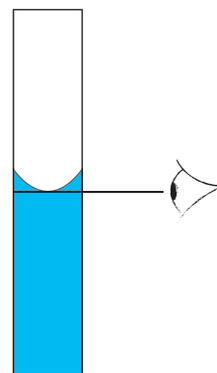

Figure 3.2.3
- After all the salt is dissolved well, add water carefully, keeping the eye at the level of the volume mark of the flask. Stop adding water when the meniscus is at the position of the mark, as shown in the figure 3.2.3.